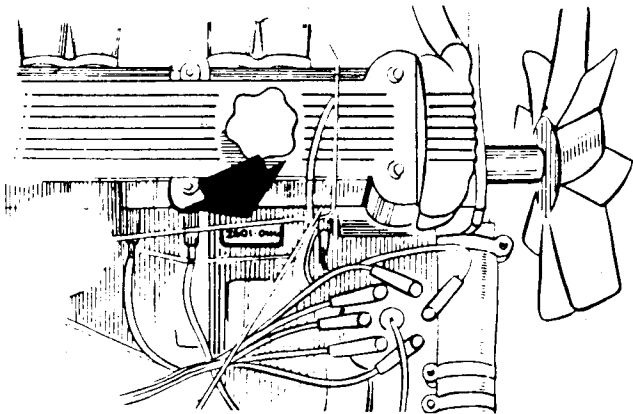

Fig A2
3. Refer to Fig A2. The engine number is stamped onto a machined surface at the right front of the engine.